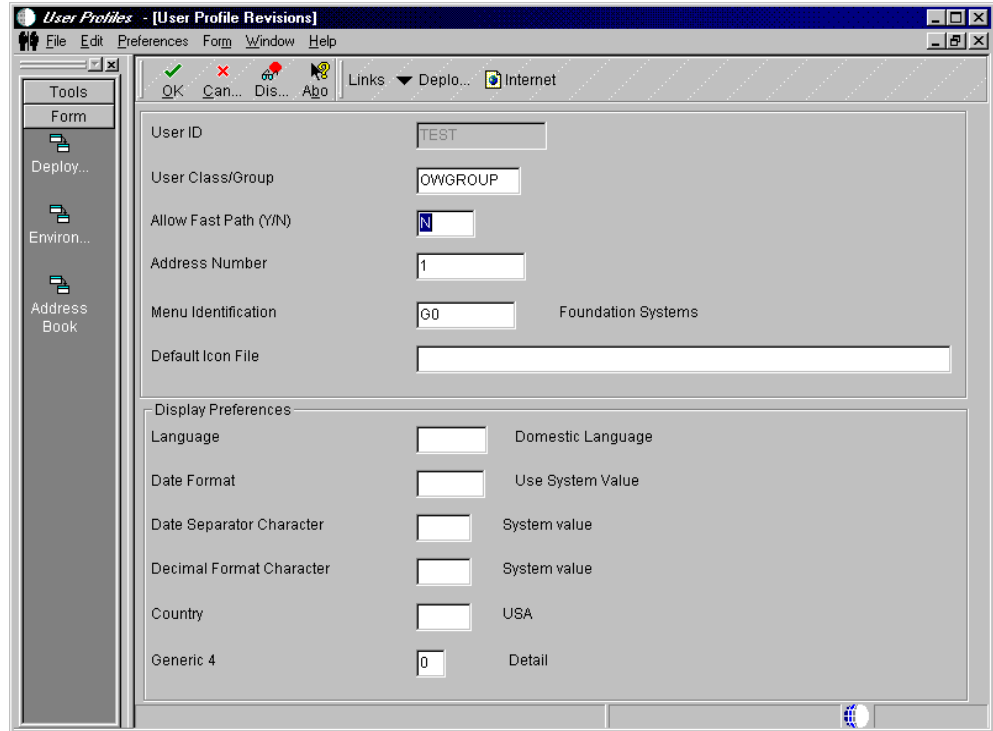

Figure 218. User Profile Revisions display
4. From the User Profile Revisions display (Figure 218), you can define the initial menu (Menu Identification) for each user and whether they are allowed to Fast Path.